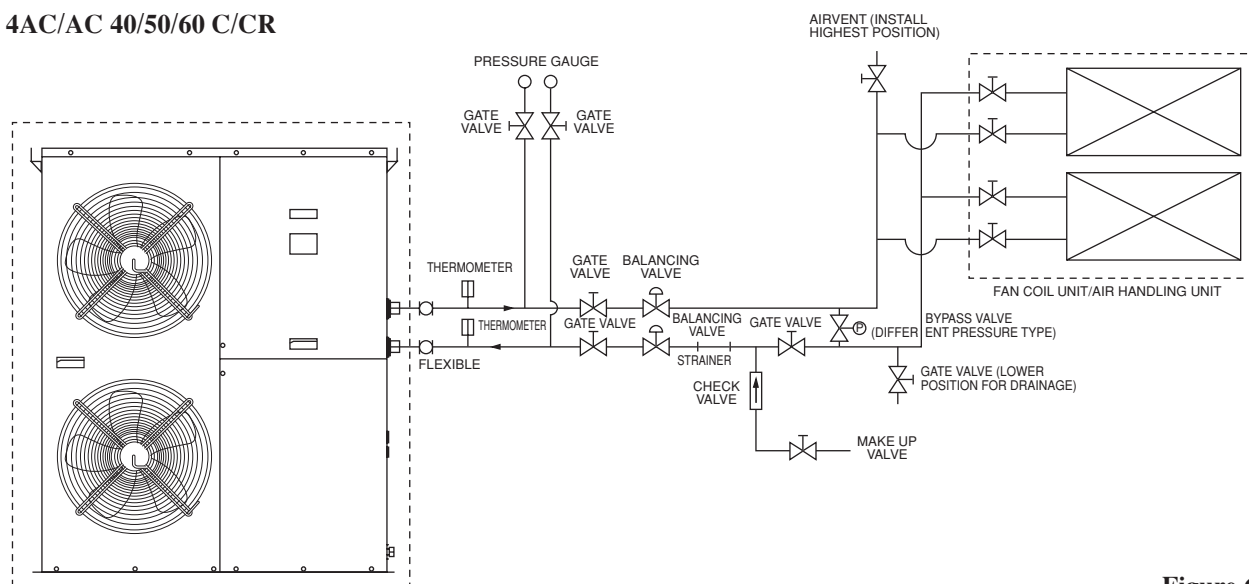

Figure 6
- Users are recommended to install the pipes and accessories as shown in Figure 6.